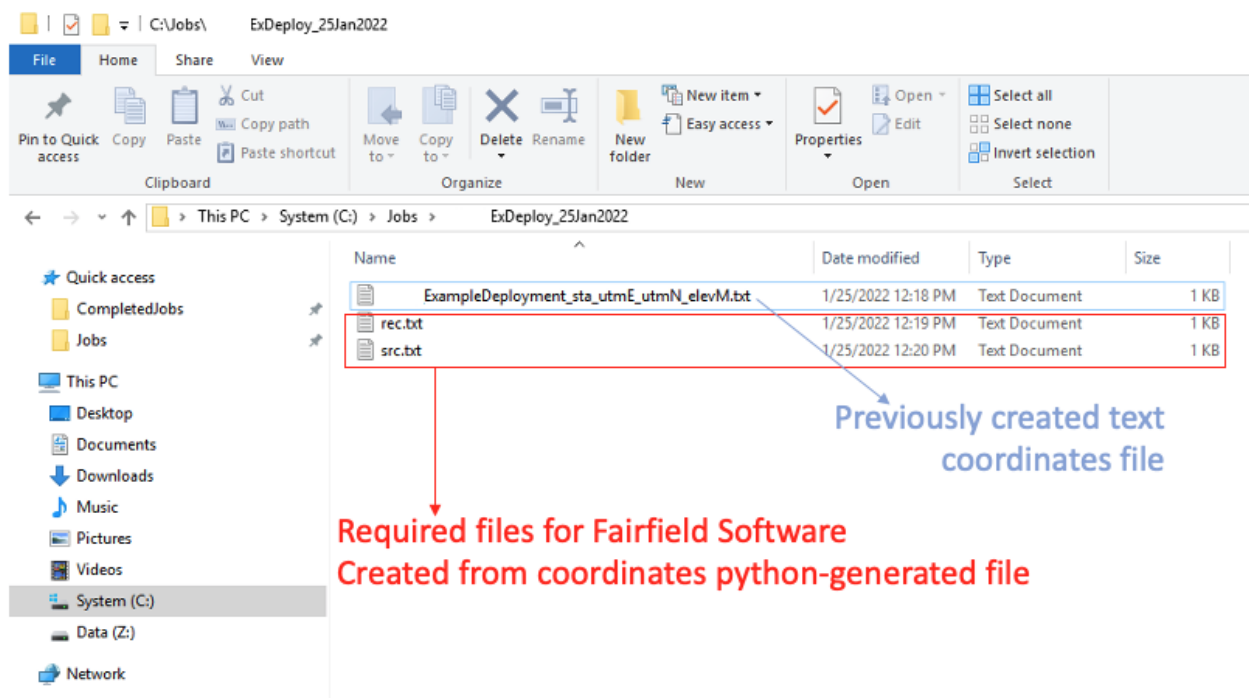
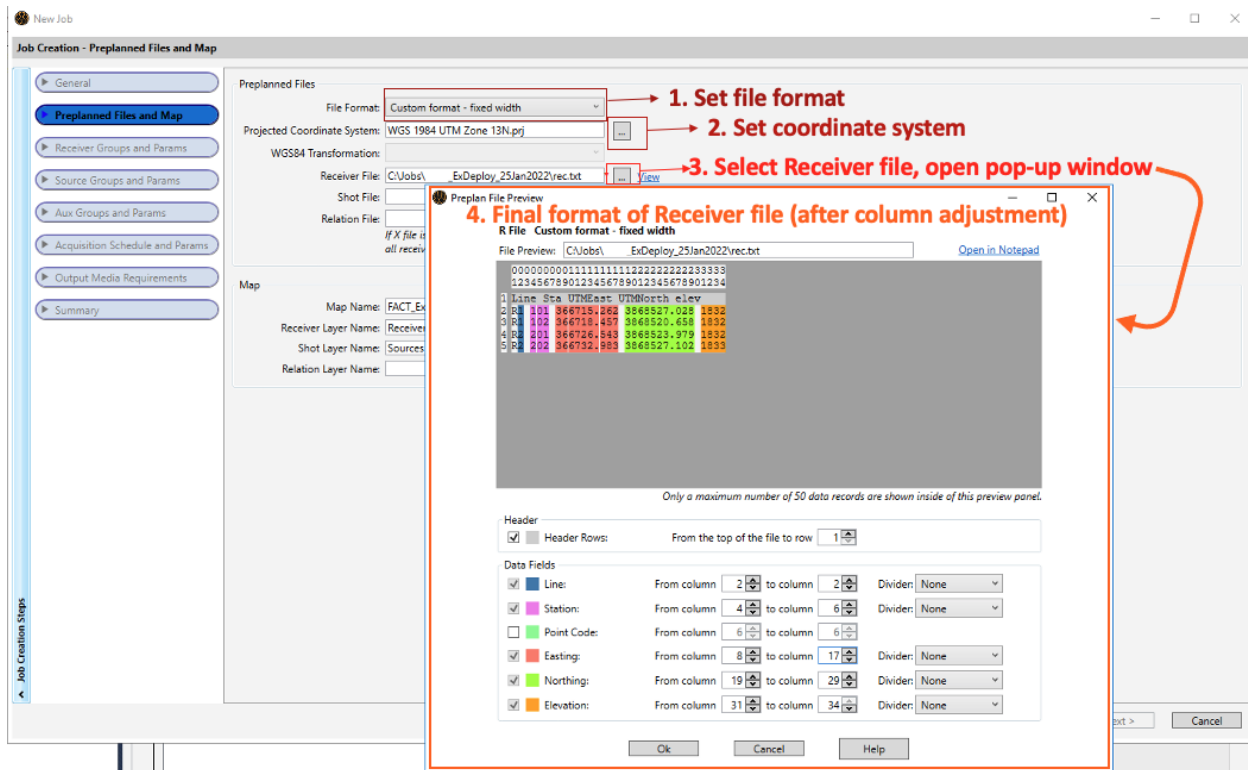

Figure 2-4 Content, including receiver and source text files, in the subdirectory specific for this project under the System(C:) > Jobs folder.
Figure 2-7 Layout of the correct settings and steps for the Preplanned Files and Map page.
Make a folder to contain the deployment information on the computer running Fairfield software. This should be located on the Windows machine in *System (C): Jobs > YourJobDirectoryName*. An example path to the *ExDeploy_25Jan2022* job is shown in Figure 2-4.
Place the previously created receiver (and shot / source, if previously created) file (rec.txt) into this directory. The contents of the example *ExDeploy_25Jan2022* job are shown in Figure 2-4. The content of the rec.txt file for this job is shown in Figure 2-7, but feel free to open the rec.txt in the example job directory for reference. Use the Notepad program to ensure the spacing and line separations are consistent with the original station file, as often there is a discrepancy between Windows and Mac/Linux operating systems.
On the **Preplanned Files and Map** (see Figure 2-7):
- Set the Receiver File: use the '...' button and navigate to the rec.txt file. From the pop-up window deselect Point Code, set the Header, and use the up/down arrows to select the columns containing Elevation values (see orange highlighted section in Figure 2-7), then use the up/down arrows to set all columns containing UTM Northing values, then Easting, then the Station, and last the Line number. Note that the column numbers may not be identical to Figure 2-7, but all fields should be highlighted as displayed in Figure 2-7. Hit 'Ok' to save this information in the pop-up menu.
Figure 2-8 Final format of the Preplanned Files and Map page. Note that the 'Shot File' section should be set as previously shown for the 'Receiver File' in Fig 2-7. The 'Map' section should be auto-filled and not require any edits.